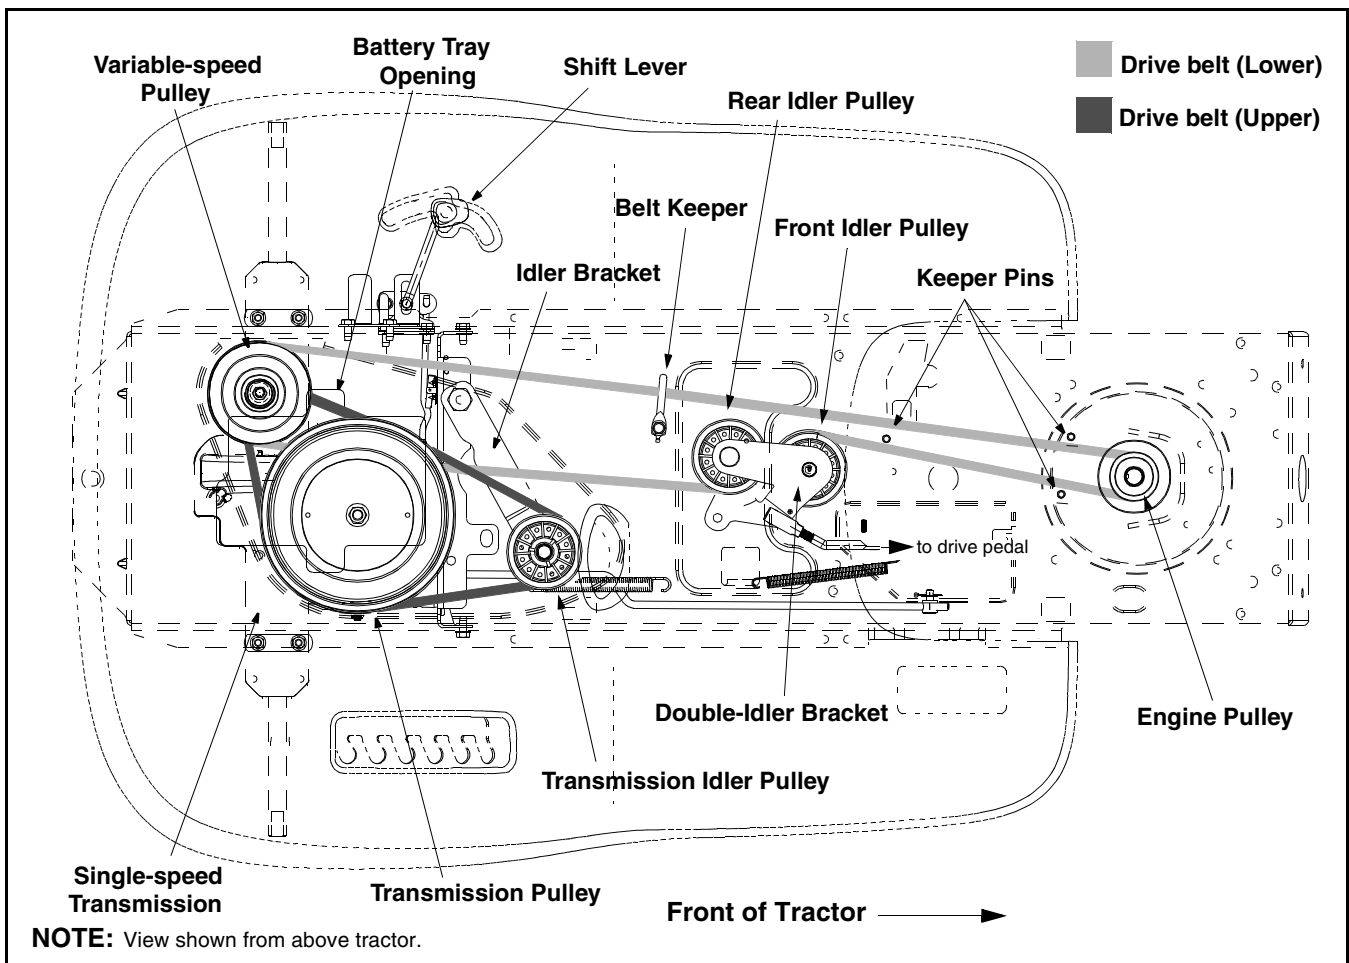

Figure 24
- On models equipped with a 42-inch deck, remove the PTO belt from around the cutting deck's center pulley. Refer to Figure 24.
- Route the new belts (deck belt first) as shown in Figure 24.
- Locate the transmission idler pulley on the upper drive belt by looking through the battery tray opening. See Figure 24.
- Reroute the new upper drive belt as shown in Figure 24.
- Locate the variable-speed pulley through the battery tray opening. See Figure 24.
- Remove the rear idler pulley from the double-idler bracket while unrouting the belt from around both the rear and the front idler pulley. Refer to Figure 24.
- Remove the drive belt by feeding it from both ends toward the front idler pulley on the double-idler bracket. See Figure 24.
- Route the replacement belt around the pulleys, belt keepers and keeper pins EXACTLY as the old one was routed. Refer to Figure 24.